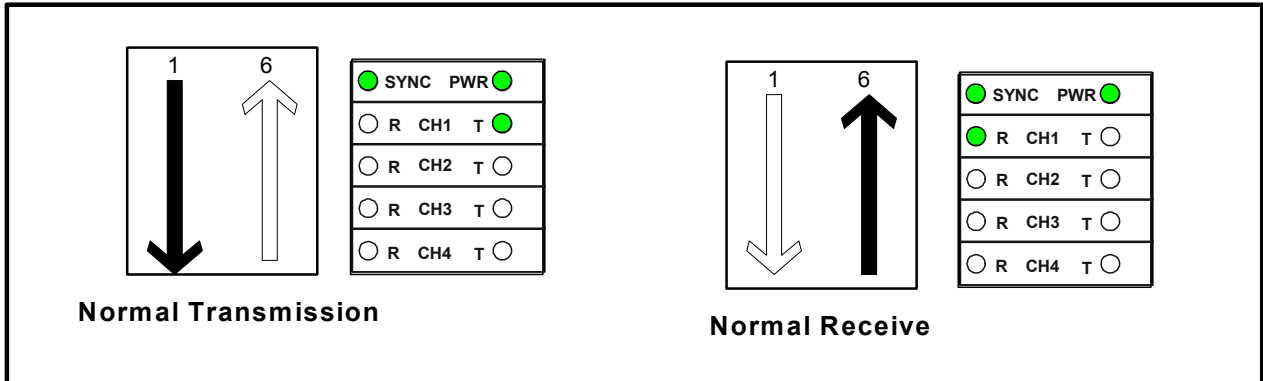

FIGURE 5. Diagnostic LED patterns and signal paths
Each Model 5941 or Model 5942 Link is equipped with ten diagnostic LEDs. Eight of the LED's represent the transmit (T) and receive (R) paths for each of the four channels. These LEDs, when illuminated, show that the appropriate path is active (passing data). When a Link channel is transmitting, the T LED will illuminate to show the transmit path active. When a Link channel is receiving light signals, the R LED will illuminate. LEDs only illuminate when the path is active; powering of the unit does not illuminate the LEDs unless their path is active. When data is present on the paths, the LEDs may "flicker"; this is normal. The diagnostic LEDs may be used for trouble shooting by observing that the illumination of the LEDs corresponds with activity in the unit. See Figure 5 for LED patterns and signal paths.
- 5) Verify operation using the diagnostic LEDs. (See Figure 5).
- 8) Verify operation using the diagnostic LEDs. (See Figure 5).